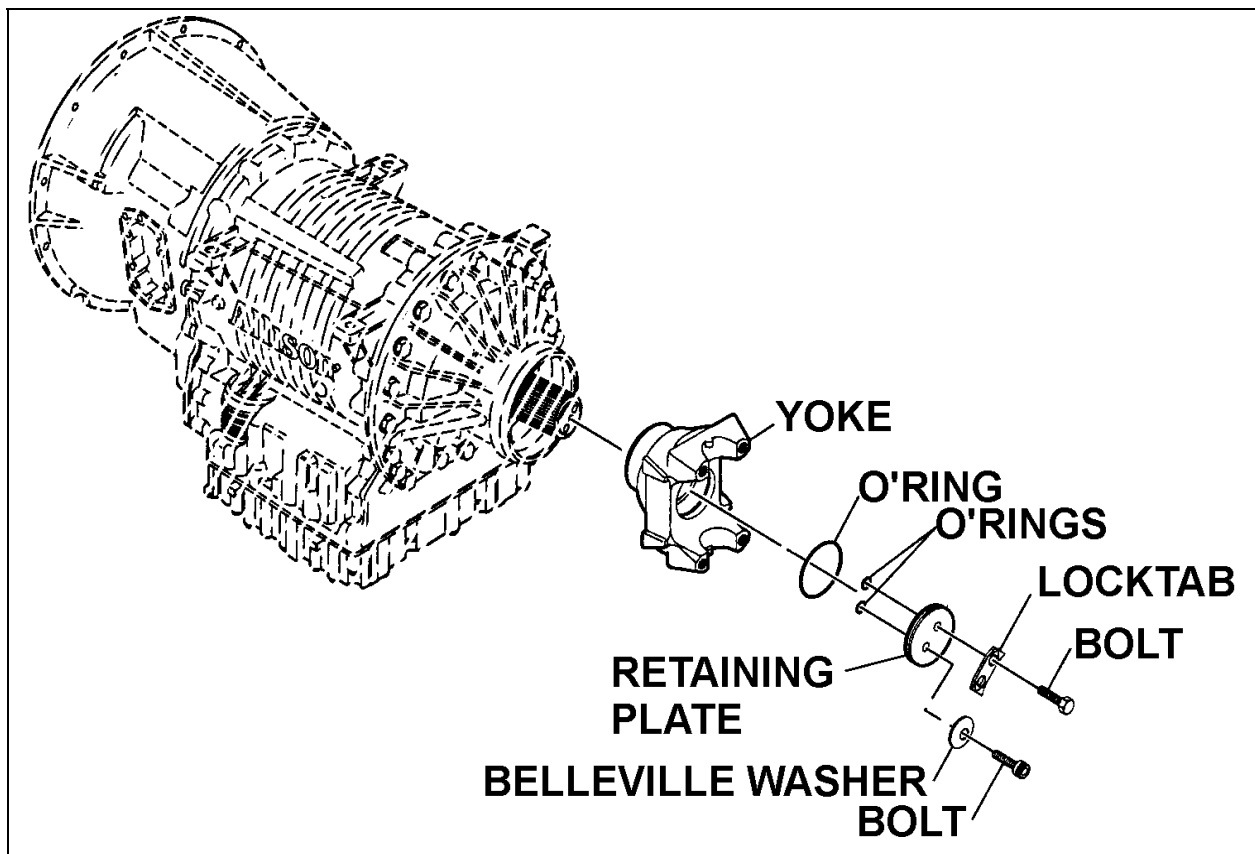

FIGURE 1
5. If replacement of two-bolt design hardware or lock tab is necessary, replace prior design head bolts with Allen head service bolt and replace lock tab with Belleville washer. Allen head bolts and Belleville washers **MUST** be used together. Lock tab and Belleville washers **MUST NOT** be used together. Tighten bolts to 30-35 Nm (22-26 lb ft). Refer to figures 1 and 2.